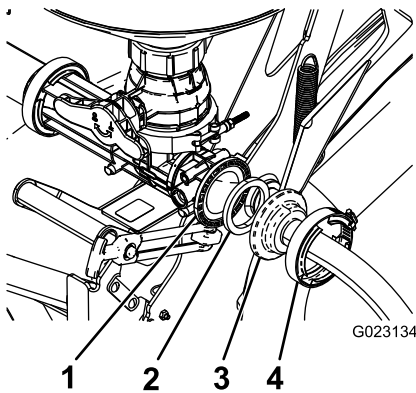

Figure 19
4. Secure the end of the supply hose without a bulkhead to the rear opening on the eductor valve using a gasket and worm-screw clamp (Figure 19).